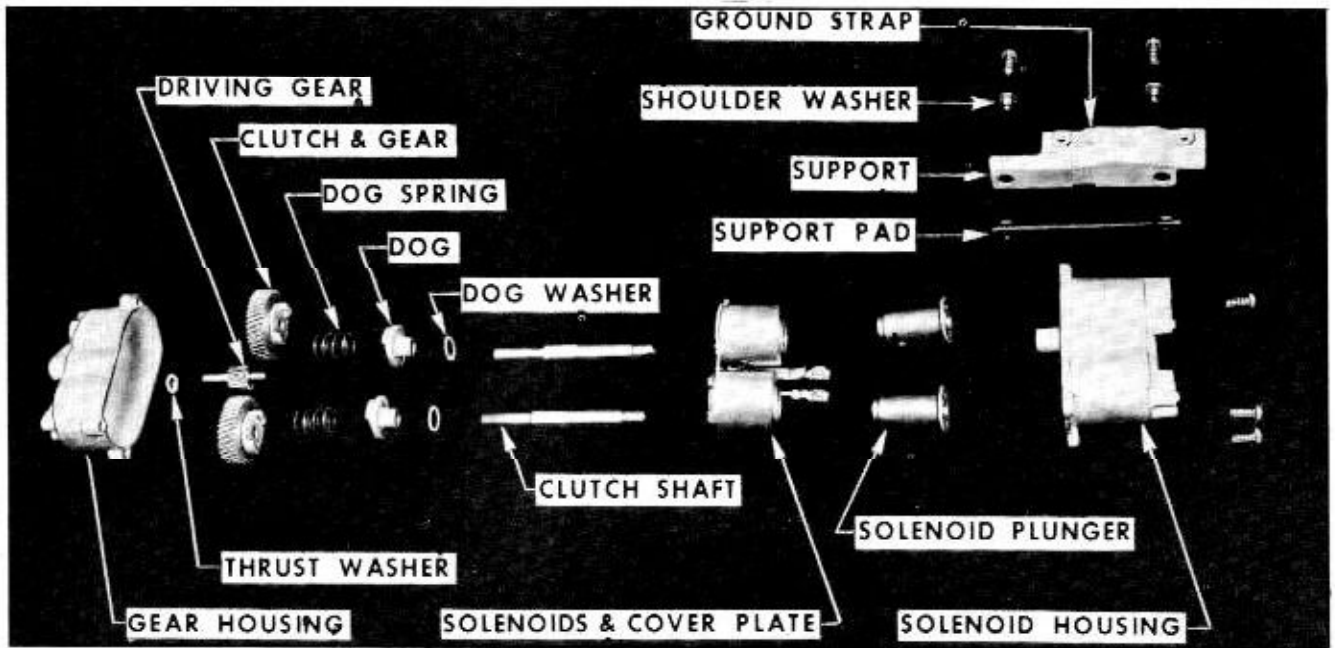

Fig. 17-71 Four-Way Seat Transmission
2. Remove screw securing ground strap to solenoid housing and screws securing transmission support to gear and solenoid housing. (Fig. 17-71)
3. Remove screws securing gear and solenoid housing together; then carefully separate housings and remove component parts of transmission assembly. (Fig. 17-71)